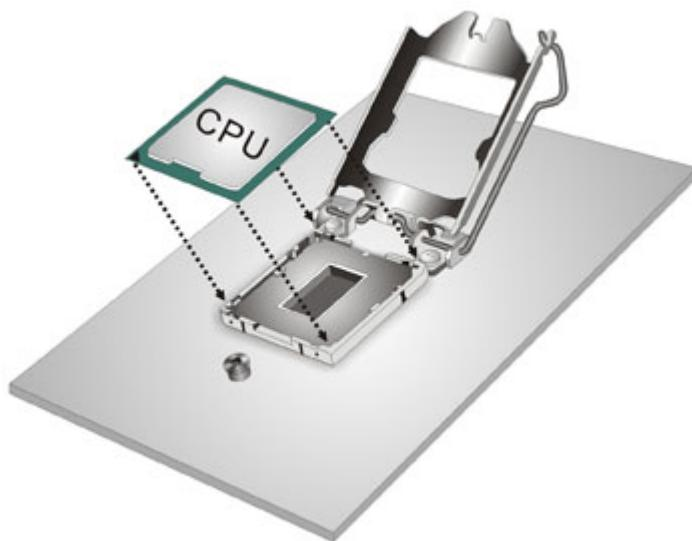

Figure 4-3: Insert the Socket LGA1150 CPU
Step 7: Insert the CPU. Gently insert the CPU into the socket. If the CPU pins are properly aligned, the CPU should slide into the CPU socket smoothly. See **Figure 4-3.**